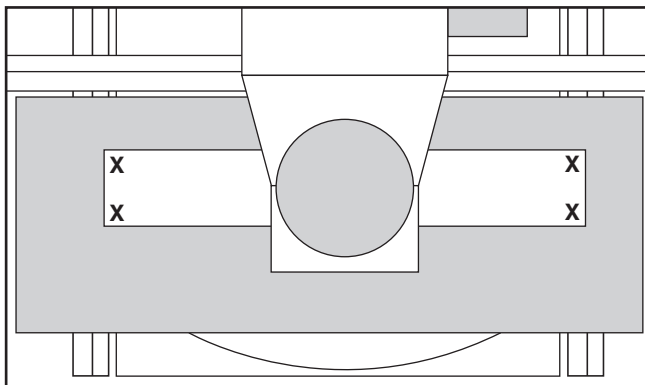

Figure 36. Measurement points (X's) for table and boring head parallelism (top view).
2. Use a dial indicator or a planed piece of stock to measure the distance between the table and boring head at the four corners of the boring head (refer to the X's illustrated in **Figure 36**).